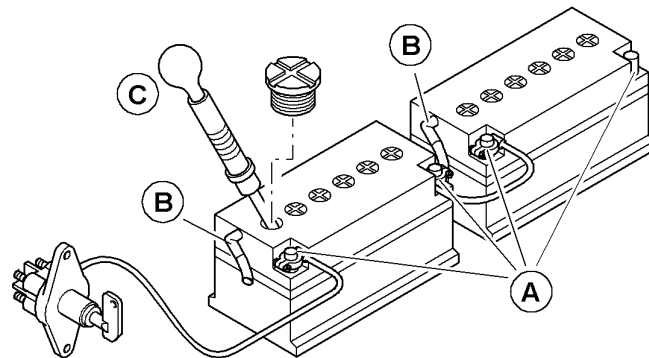

Fig. 5-61 Battery care
- ▶ Particular care should be taken to regularly clean the pole ends and cable terminals **A** and then cover them with a thick layer of acid-proof grease (see Fig. 5-61).
- ▶ Regularly check the condition of hoses **B**, particularly after installing a battery (see Fig. 5-61).